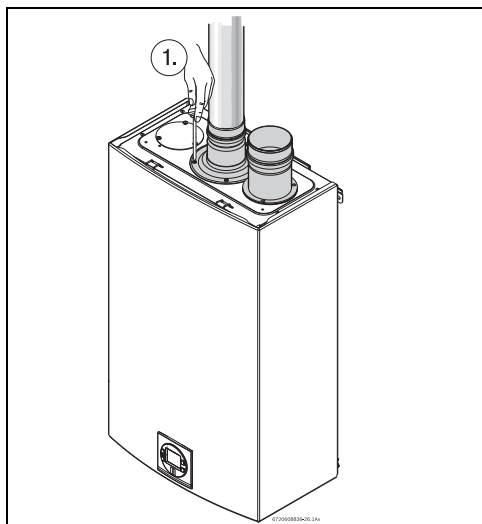

Fig. 18 Exhaust connection
- Attach the flue gas exhaust accessory to the top of the unit fig. 18 (position 1) using the 4 screws and gasket provided, and fully insert vent pipe into the accessory. If using 4" venting, a 3" to 4" increaser should be installed directly after this accessory. If using 2" venting, a 3" to 2" reducer should be installed directly after this accessory. If using the PP twin pipe system, adapters from the appliance adapter (3" PVC compatible) to the PP system are needed.